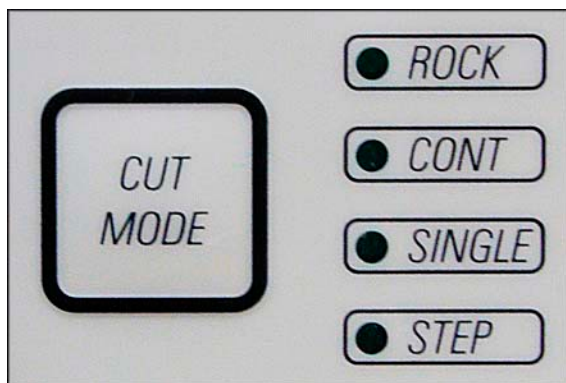

Fig. 18
- Select the desired operating mode, **CONT**, **SINGLE** or **STEP**, on the control panel (Fig. 18) with the **CUT MODE** button.